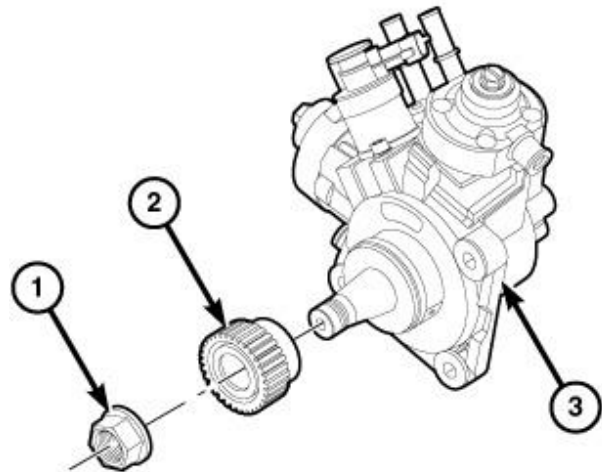

Figure 86 - Gear Removal and Installation
NOTE: The use of Puller 1023 or a commercially available gear puller is required to remove the fuel injection pump gear (2) (Figure 86).
20. If removed, install the gear (2) and nut (1) onto the fuel injection pump (3) and tighten the nut (1) finger tight (Figure 86).